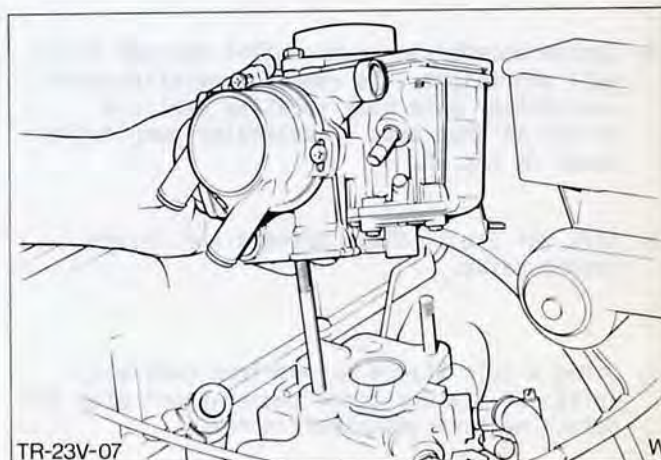

Fig.47. Carburettor removal.
9. Remove two nuts and washers and detach carburettor assembly, Fig.47.